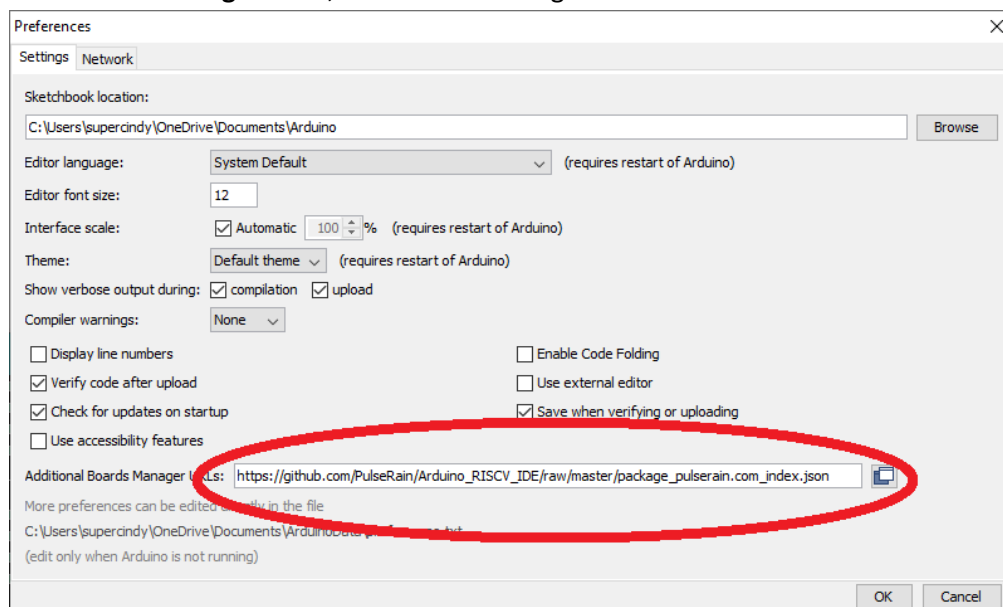

Figure 5-4 Arduino IDE, Setup Additional Boards Manager URLs
2. Add https://github.com/PulseRain/Arduino_RISCV_IDE/raw/master/package_pulserain.com_index.json to Additional Boards Manager URLs, as illustrated in Figure 5-4.